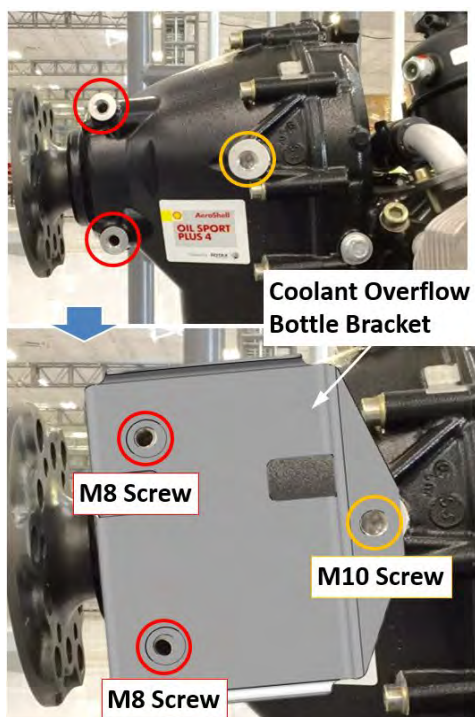

FIGURE 16-41
4. Install the coolant overflow bottle bracket on the engine as shown in Figure 16-41. using the noted hardware. Apply LOCTITE[®] 243™ to the screw threads.